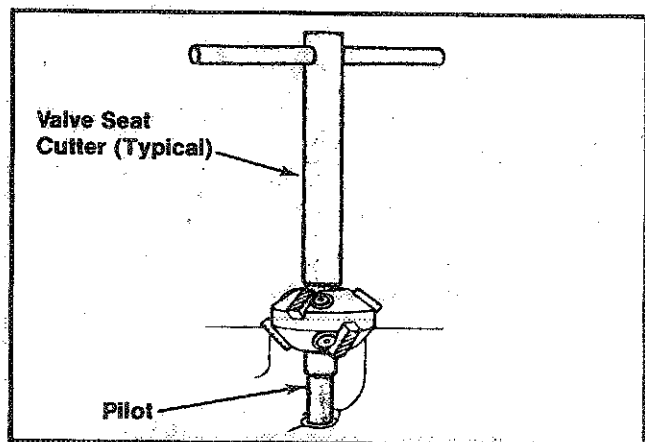

Figure 10-10. Standard Valve Seat Cutter.
3. Use a standard valve seat cutter (see Figure 10-10) and cut seat to dimensions shown in Figure 10-5.